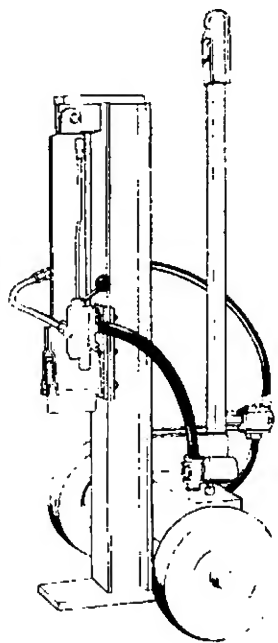

FIGURE 23.
6. The tongue can be removed and reattached in an upright position as shown in figure 23 to take less space when storing.